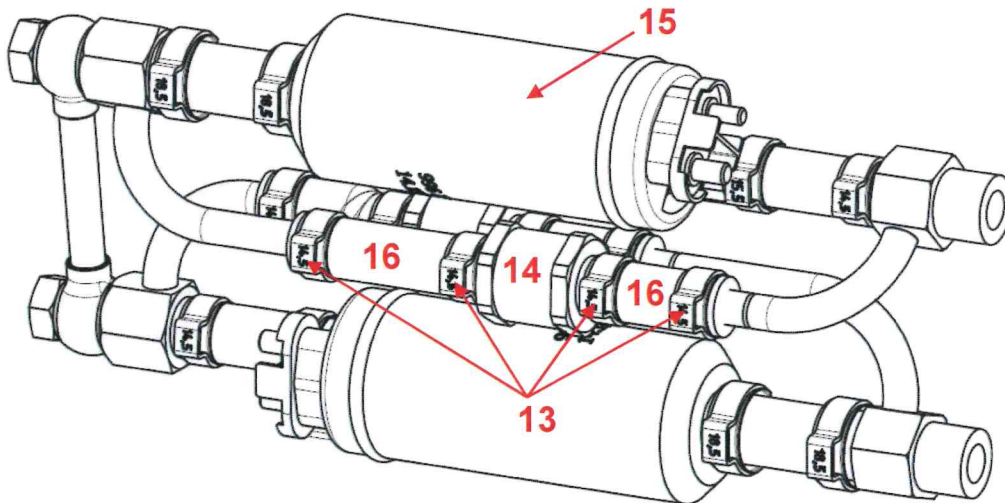
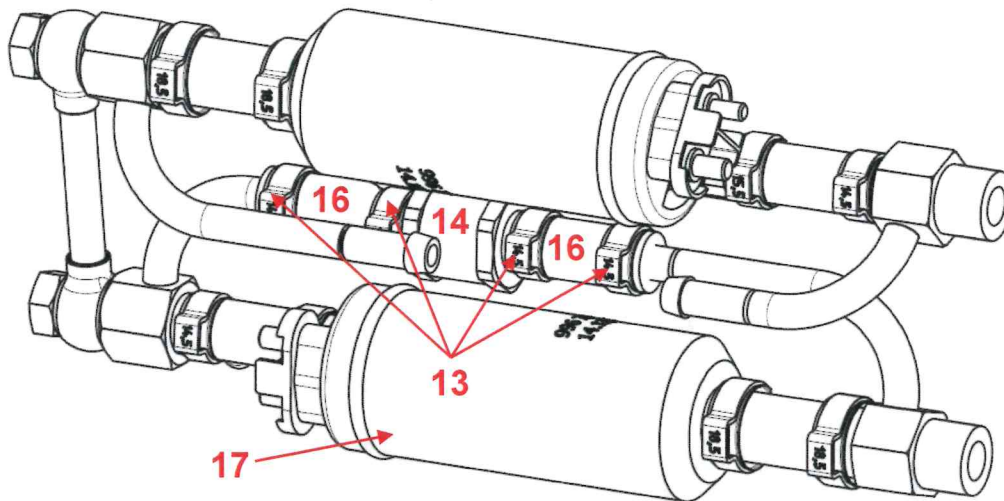
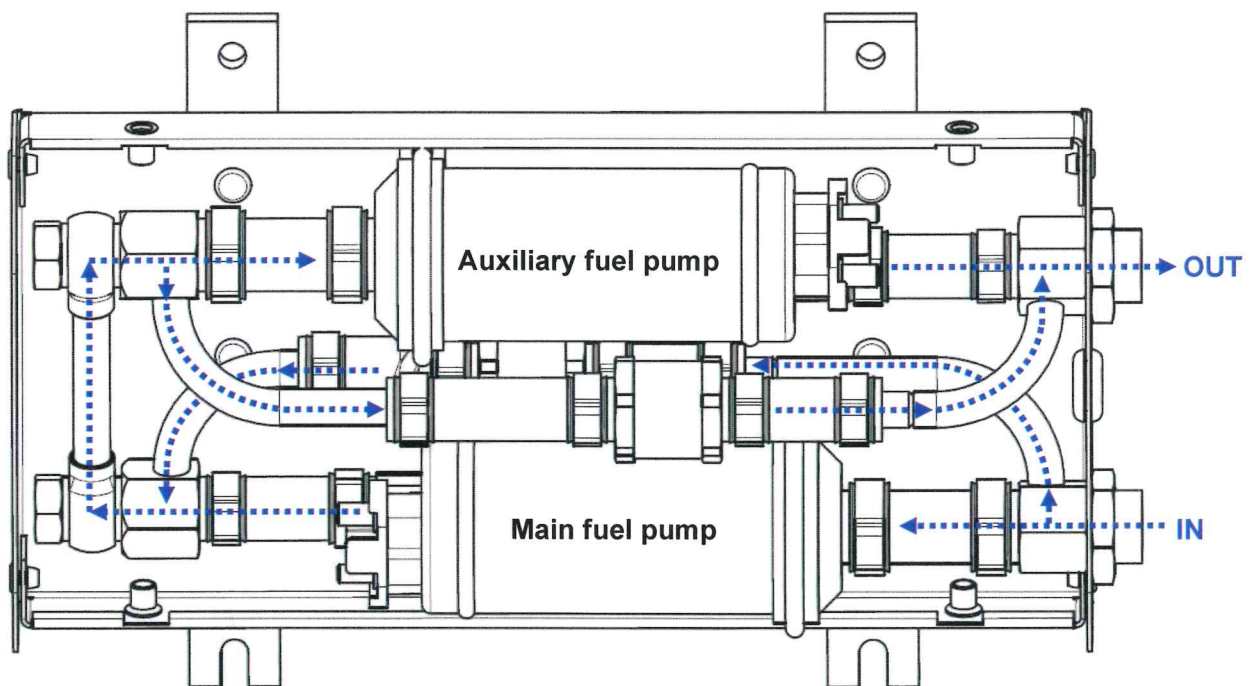

Fig. 4
Fig. 5
Fig. 6
12. Remove the pressing clamps (13; Fig. 4) and remove the check valve ReCo 110-8 (14) of auxiliary fuel pump (15) together with hoses (16).
13. Remove the pressing clamps (13; Fig. 5) and remove the check valve ReCo 110-8 (14) of main fuel pump (15) together with hoses (16).
2. Slide the new pressing clamps (13; Fig. 5) onto the new fuel hoses (16) and connect the main fuel pump (17) bypass line with the new check valve TEVESO 000599 (14). Do not secure the pressing clamps!
*WARNING: Ensure the proper orientation of the check valve. The direction of the arrow printed on the check valve represents the fuel flow direction (see Fig. 6)!*
3. If the fuel flow direction through the check valve is correct (Fig. 6), secure the pressing clamps (13; Fig. 5).
4. Slide the new pressing clamps (13; Fig. 4) onto the new fuel hoses (16) and connect the auxiliary fuel pump (15) bypass line with the new check valve TEVESO 000599 (14). Do not secure the pressing clamps!
5. If the fuel flow direction through the check valve is correct (Fig. 6), secure the pressing clamps (13; Fig. 4).